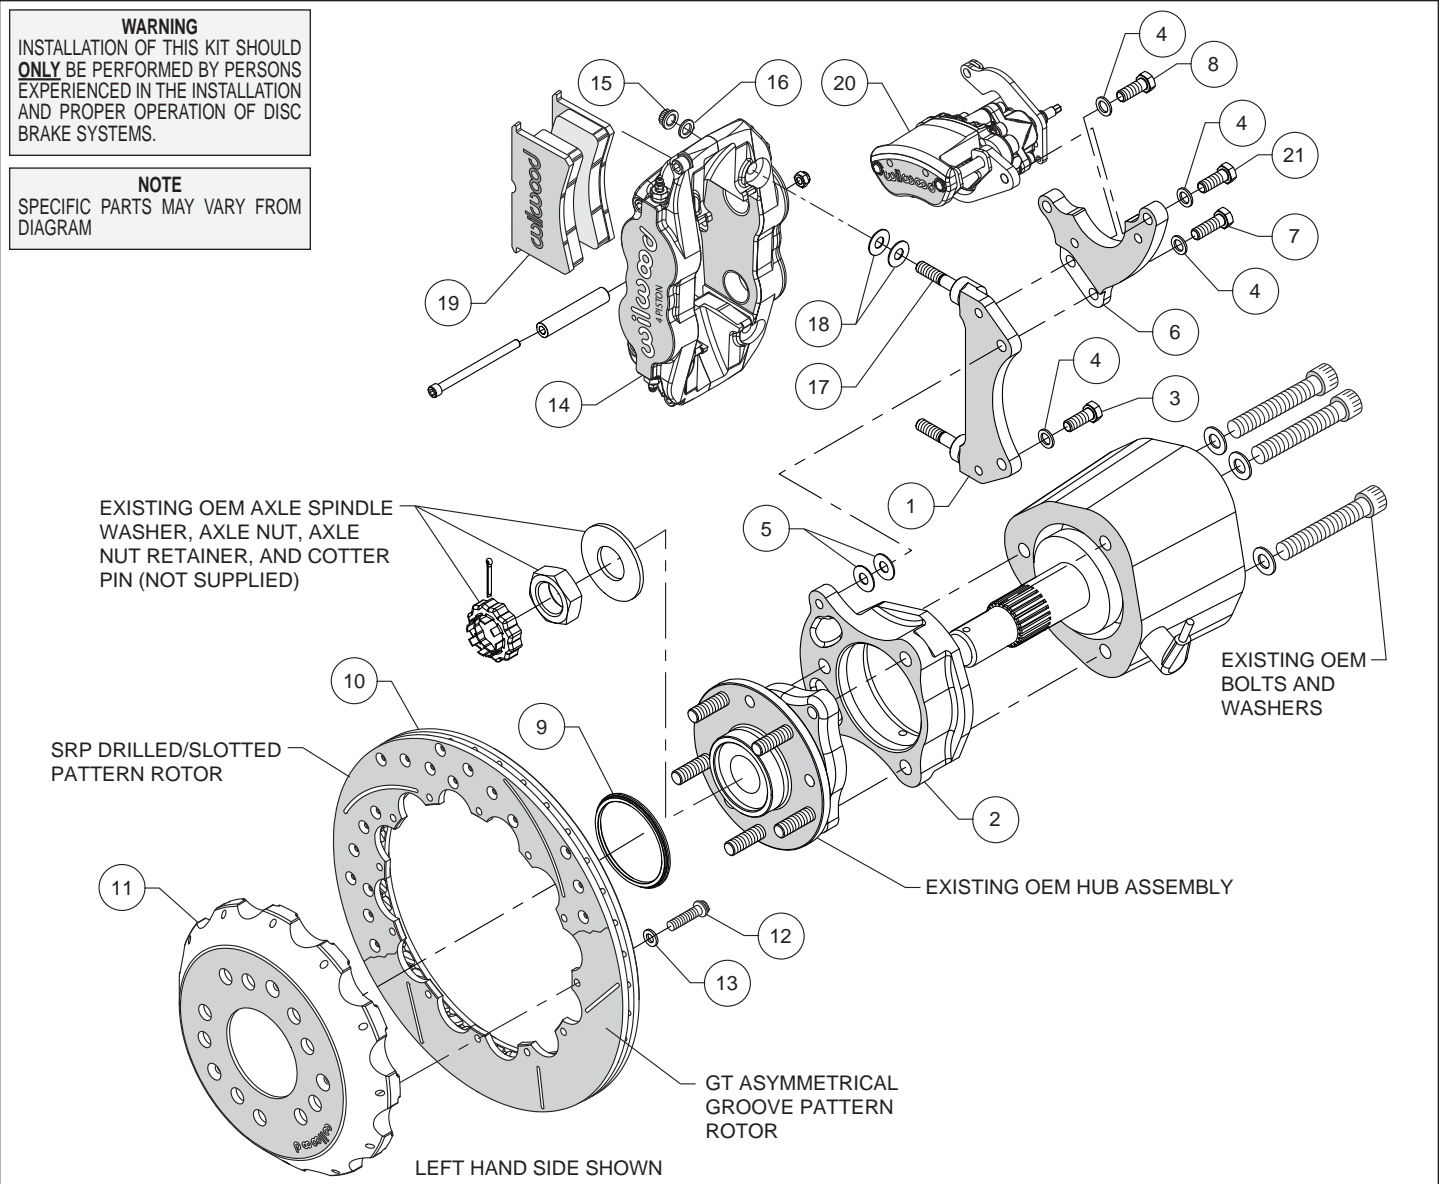

Figure 1. Typical Installation Configuration
**Assembly Instructions** (numbers in parenthesis refer to the parts list and Figure 1 on the preceding pages):
- The caliper and parking brake mount brackets should initially be installed with clean, dry threads on the mounting bolts. Orient the parking brake bracket (6) and caliper bracket as shown in Figure 1 and Photo 1. Attach parking brake bracket using top bolt (8) and washer (4) (arrow). Do not tighten.
- Attach the radial mount caliper bracket (1) to the axle hub bracket (2) using bolts (3 and 7) and washers (4) as shown in Figure 1 and Photo 1. Initially place two .035" thick shims (5) on bolts (3 and 7) between the radial bracket and axle hub bracket, Figure 1. Temporarily tighten all three bolts. Later, after the caliper alignment has been checked, the mount bolts will be secured using red *Loctite*® 271.
- Orient the caliper bracket assembly (1, 2 and 6) as shown in Figure 1 and Photo 2. **NOTE:** The bracket assembly must fit squarely against the face of the upright. Inspect for interference from casting irregularities, machining ridges, burrs, etc.
- Slide the rotor registration adapter (9) onto the axle register on the hub assembly with the smaller O.D. facing outward, Photo 4.
- Orient the rotor (10) and the hat (11) as shown in Figure 1 and Photo 5. Attach rotor to hat using bolts (12) and washers (13). Using an alternating sequence, apply red *Loctite*® 271 to the threads, and torque to 155 **in-lbs**. For an added measure of security, the bolts may be safety wired using standard 0.032 inch diameter stainless steel safety wire as shown in Figure 3. Please refer to Wilwood's data sheet DS-386 (available at [www.wilwood.com/Pdf/DataSheets/ds386.pdf](http://www.wilwood.com/Pdf/DataSheets/ds386.pdf)) for complete safety wire installation instructions.
- Lubricate the caliper mounting studs (17) with lightweight oil. Initially place two .035" thick shims (18) on each stud as shown
in Figure 1 and Photo 7. Mount the caliper (14) onto the bracket (1) using lock nuts (15) and washers (16), Figure 1. Temporarily tighten the lock nuts and view the rotor through the top opening of the caliper. The rotor should be centered in the caliper, Photo 8. If not, adjust by adding or subtracting shims (5) between the radial bracket (1) and the axle hub bracket (2). Always use the same amount of shims on each of the two mounting bolts. Once the caliper alignment is correct, remove the radial/MC4 bracket mounting bolts (3, 7 and 8) one at a time, apply red *Loctite*® 271 to the threads, and torque bolts to 35 ft-lb.
- Mount the parking brake caliper (20) onto the top section of the caliper bracket assembly (1 and 6) using bolts (21) and washers (4), as shown in Figure 1 and Photo 12. Apply red *Loctite*® 271 to bolt threads, and torque to 30 ft-lb.